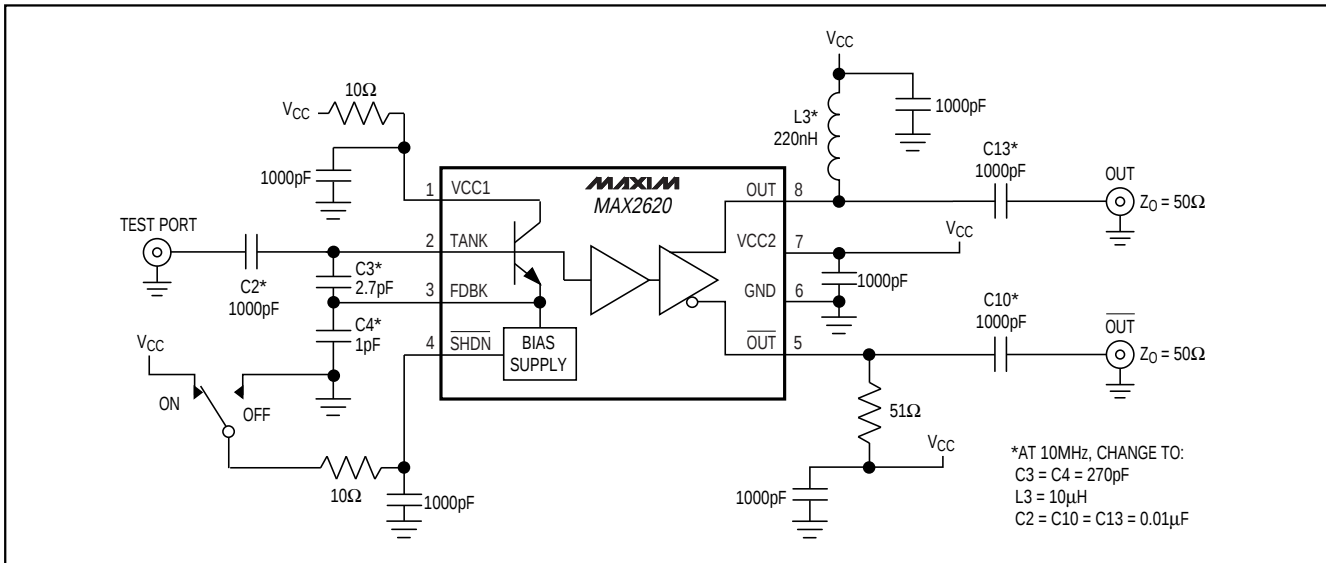
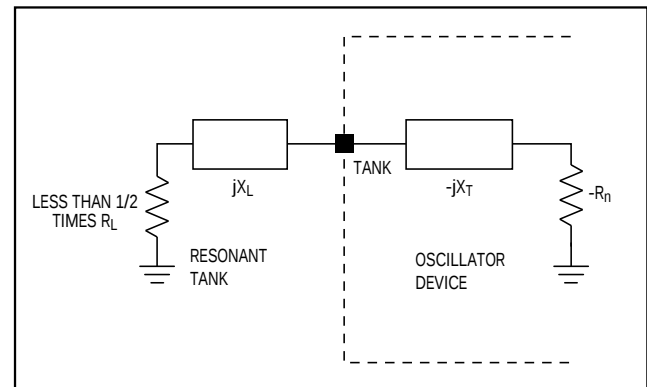

Figure 1. 900MHz Test Circuit
Figure 2. Simplified Oscillator Circuit Model
(Per Test Circuit of Figure 1, VCC = +3.0V, $\overline{\text{SHDN}}$ = VCC, Z_{LOAD} = Z_{SOURCE} = 50Ω, P_{IN} = -20dBm (50Ω), f_{TEST} = 900MHz, T_A = +25°C, unless otherwise noted.)
(Per test circuit of Figure 1, $V_{CC} = +3.0V$, $\overline{SHDN} = V_{CC}$, $Z_{LOAD} = Z_{SOURCE} = 50\Omega$, $P_{IN} = -20dBm/50\Omega$, $f_{TEST} = 900MHz$, $T_A = +25^\circ C$, unless otherwise noted.)
*SEE FIGURE 1
At the frequency of interest, the MAX2620 portion of Figure 2 shows the one-port circuit model for the TANK pin (test port in Figure 1).
For the circuit to oscillate at a desired frequency, the resonant tank circuit connected to TANK must present an impedance that is a complement to the network (Figure 2). This resonant tank circuit must have a positive real component that is a maximum of one-half the magnitude of the negative real part of the oscillator device, as well as a reactive component that is opposite in sign to the reactive component of the oscillator device.
Both of the MAX2620's outputs (OUT and $\overline{\text{OUT}}$) are open collectors. They need to be pulled up to the supply by external components. An easy approach to this pull-up is a resistor. A 50Ω resistor value would inherently match the output to a 50Ω system. The *Typical Operating Circuit* shows $\overline{\text{OUT}}$ configured this way. Alternatively, a choke pull-up (Figure 1), yields greater output power (approximately -8dBm at 900MHz).